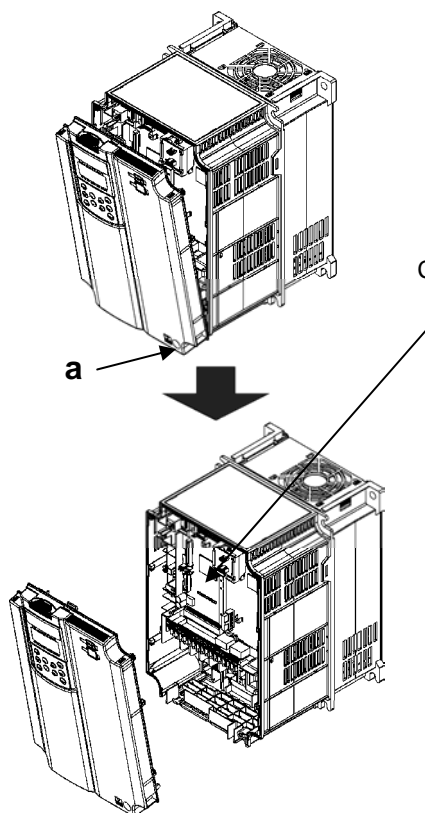

Figure 6.1.1 Removing the Front Cover
As shown in Figure 6.1.1, loosen the one mounting screw on the front cover at location (a) and grip the top of the cover to remove it.
- (1) Attach the three included spacers (d) to the three option mounting fixtures (a) through (c) on the control printed circuit board.
- (2) Install the communications option card so that connector CN1 (on the back of the communications option card) connects to connector CN2 on the control printed circuit board.
- (3) Tighten the three included screws (e) to secure the communications option card in place.
- (4) Referring to Figures 6.1.1 and 6.1.2, “Removing the Front Cover,” reverse the procedure to reattach the front cover.
- (2) Install the communications option card so that connector CN1 (on the back of the communications option card) connects to connector CN3 on the control printed circuit board.
- (1) Install the digital 16-bit option, connecting it to the CN10 connector on the control printed circuit board.
- (2) Attach the two screws (a) included with the digital 16-bit option to mounting holes ① and ② on the digital 16-bit option, and attach four spacers (b) to holes ③ through ⑥.
- (3) Attach one spacer (d) included with the communications option card to the option mounting fixture (c) on the control printed circuit board.
- (4) Install the communications option card so that connector CN1 (on the back of the communications option card) connects to connector CN2 on the control printed circuit board.
- (5) Tighten the three included screws (e) to secure the communications option card in place.
- (6) Referring to Figures 6.1.1 and 6.1.2, "Removing the Front Cover," reverse the procedure to reattach the front cover.
- (4) Install the communications option card so that connector CN1 (on the back of the communications option card) connects to connector CN3 on the control printed circuit board.
- (2) Install the digital option card so that connector CN1 (on the back of the digital option card) connects to connector CN2 on the control printed circuit board.
- (3) Connect the power supply harness running from the top of the digital option card to CN24 on the control printed circuit board. For OPC-VG1-SPGT, connect the harness to CN12.
- (4) Tighten the three included screws (e) to secure the digital option card in place.
- (5) Referring to Figures 6.1.1 and 6.1.2, “Removing the Front Cover,” reverse the procedure to reattach the front cover.
- (2) Install the digital option card so that connector CN1 (on the back of the digital option card) connects to connector CN3 on the control printed circuit board.
- (3) Connect the power supply harness running from the top of the digital option card to CN25 on the control printed circuit board.
- (3) Attach one spacer (d) included with the digital option card to the option mounting fixture (c) on the control printed circuit board.
- (4) Install the digital option card so that connector CN1 (on the back of the digital option card) connects to connector CN2 on the control printed circuit board.
- (5) Connect the power supply harness running from the top of the digital option card to CN24 on the control printed circuit board. For OPC-VG1-SPGT, connect the harness to CN12.
- (6) Tighten the three included screws (e) to secure the digital option card in place.
- (7) Referring to Figures 6.1.1 and 6.1.2, "Removing the Front Cover," reverse the procedure to reattach the front cover.